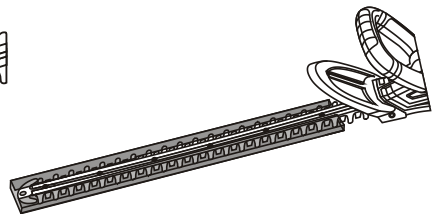

Fig. 7
2. Make sure the blade guard slides fully onto the cutting blades to ensure all cutting teeth are covered (Fig.7).